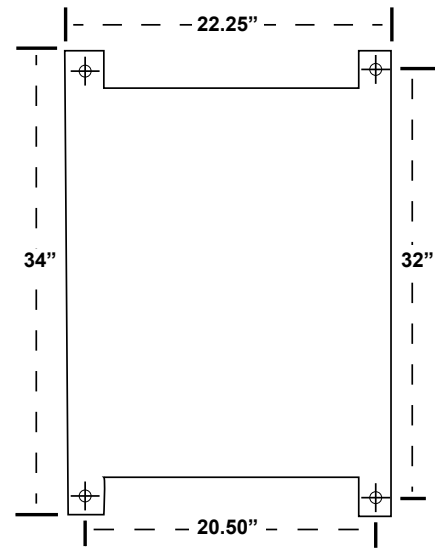

Fig. 2: Mounting Template
3. Confirm marked mounting location matches the mounting template (Fig. 2).